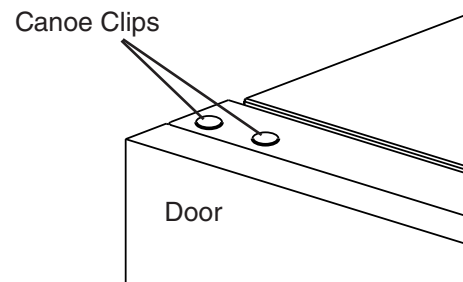

**Fig. 20**
- 8) Replace the door gasket in its proper orientation. Reinsert the bushings into hinge (C1) and hinge (C2) (the hinges attached to the door). See Fig. 20.